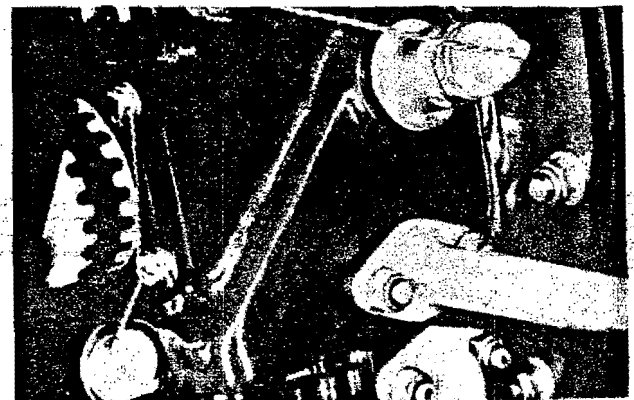

Figure 7-23. Relief Valve
**7-35. OIL PRESSURE ADJUSTMENT.** Remove the adjusting screw acorn cap, on the oil pressure relief valve, using PWA-978 Wrench [Figure 7-23]. Loosen the locknut and turn the adjusting screw clockwise to increase the oil pressure, or counterclockwise to decrease the pressure.